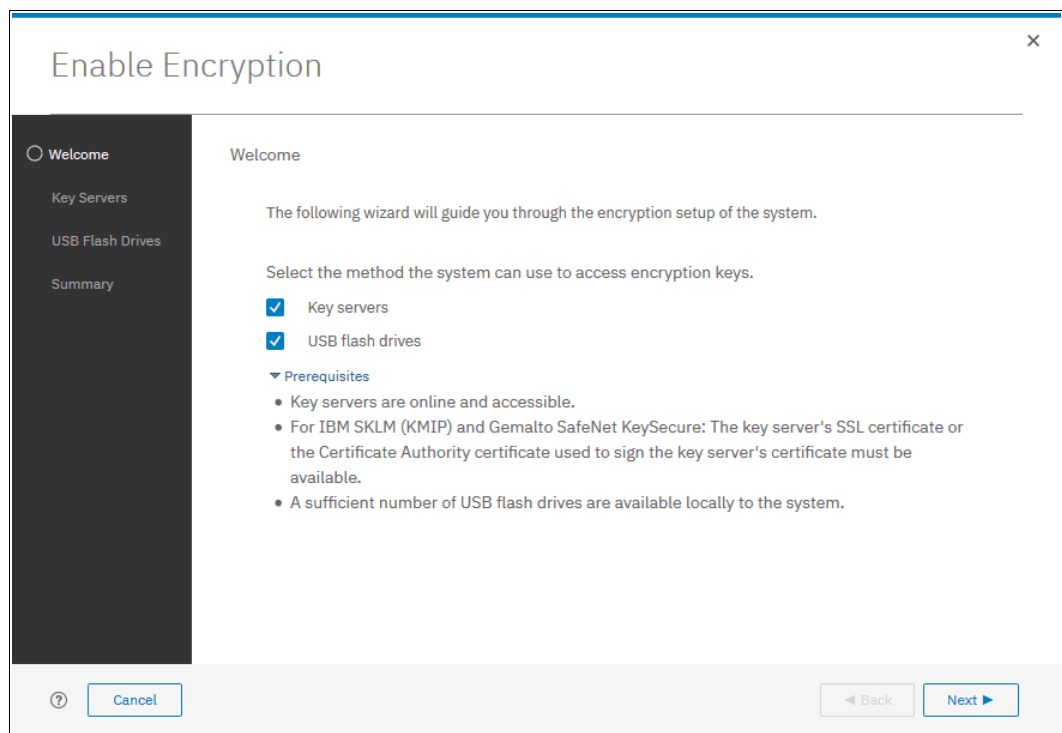

Figure 13-50 Selecting Key servers and USB flash drives in the Enable Encryption wizard
2. In the Enable Encryption wizard Welcome tab, select **Key servers** and **USB flash drives** and click **Next**, as shown in Figure 13-50.